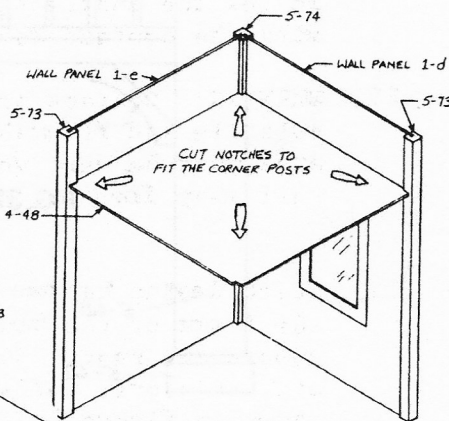

FIG. 25
10. While the glue from steps 7 through 10 dries, assemble the wing structures as shown in figure 25. Begin by gluing the wing rear corner posts (part no. 5-73) onto the rear edges of wall panels 1-D and 1-G. Be sure the wall panels are fully seated in the grooves, and that the posts are flush with the bottoms of the walls. Tape the corner posts in place.
11. Glue the wing side corner posts (part no. 5-73) to the right hand edge of wall panel 1-E and the left hand edge of wall panel 1-F (refer to figure 25). Tape the corner posts in place, as in step 11.